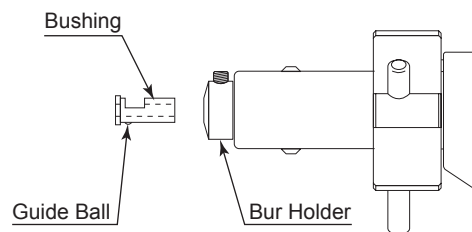

Fig. 5
- To mount larger tool ϕ 3.2 mm through ϕ 6.4mm), loosen the setscrew, remove the bushing, insert the tool and tighten the setscrew. (Fig. 5)
Loosen the tool mounting setscrew with the supplied allen wrench (2mm), and remove. To re-install the bushing, align the guide ball on the bushing with the slot. (Fig. 5)